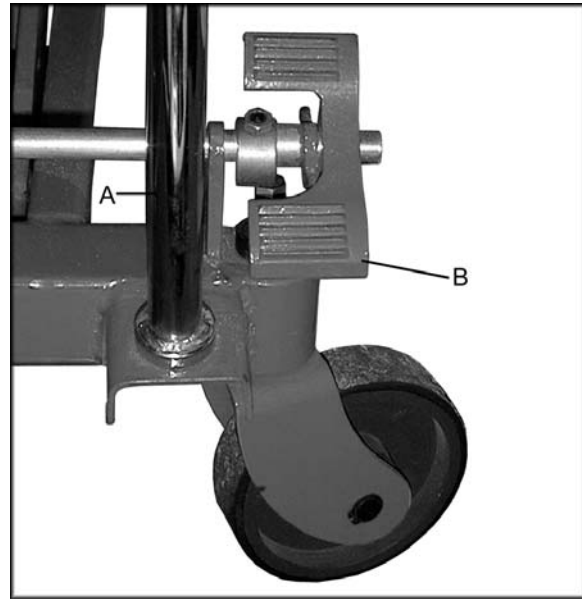
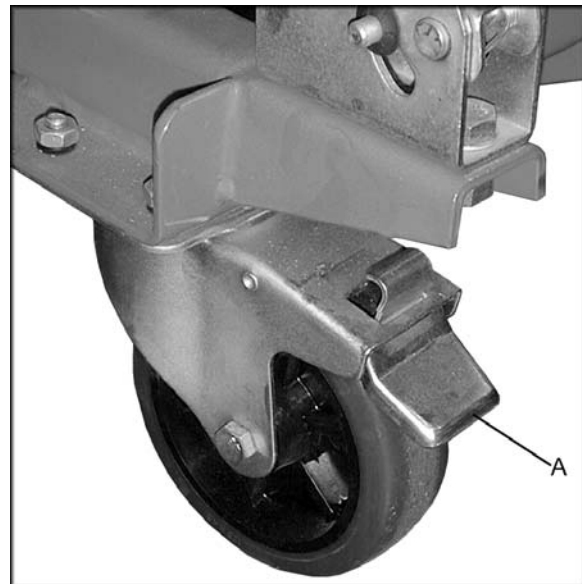

Figure 1
Figure 2
1. On the SLT-1650, attach the handle (A, Figure 1) to the frame using two hex cap screws, two lock washers, two flat washers. Tighten with a 19mm wrench.
Note: The two pivoting casters can be locked so that they do not rotate. Press foot lever (B, Figure 1 for SLT-1650) down to lock. Press foot lever (A, Figure 2 for SLT-660F) down to lock.